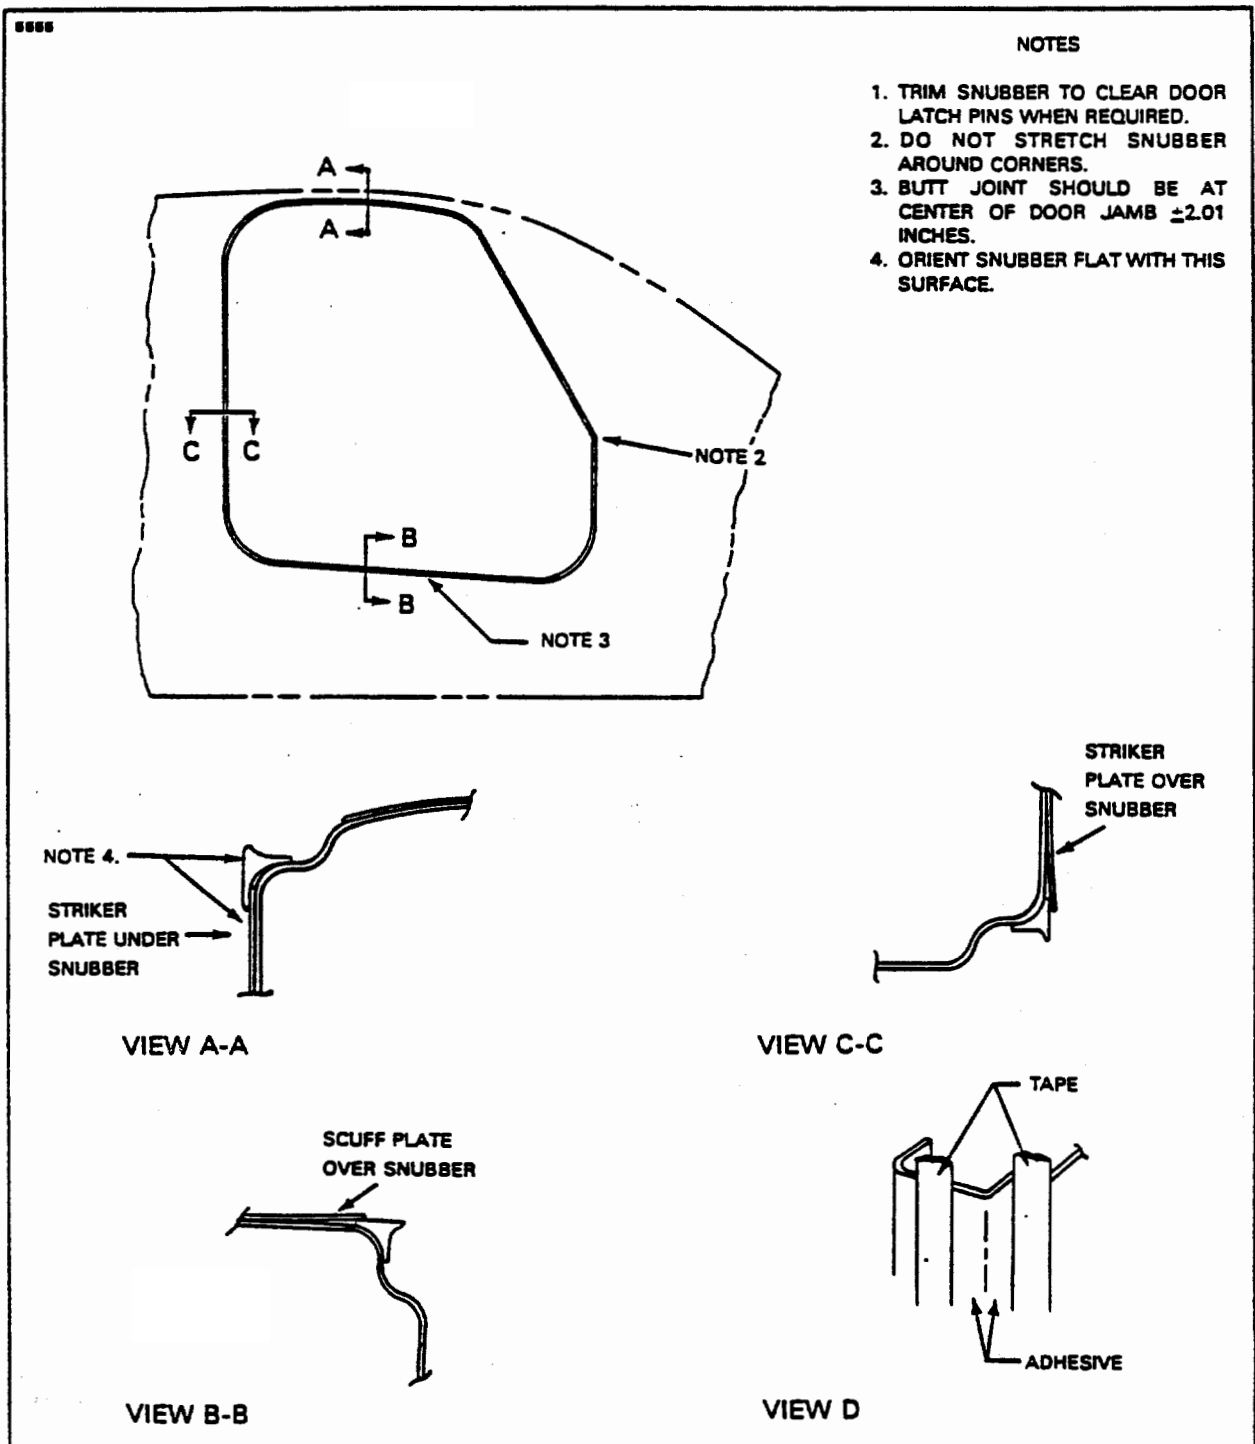

Figure 4-6a. Door Seal Snubber Installation
- d. Remove the striker plate. (Refer to Figure 4-6a.)
2. To effect a clean installation it is recommended that the door jamb is masked off with tape as shown in Figure 4-6a, View D.
3. Apply adhesive to the door jamb with a small brush on the area indicated in Figure 4-6a, View D.